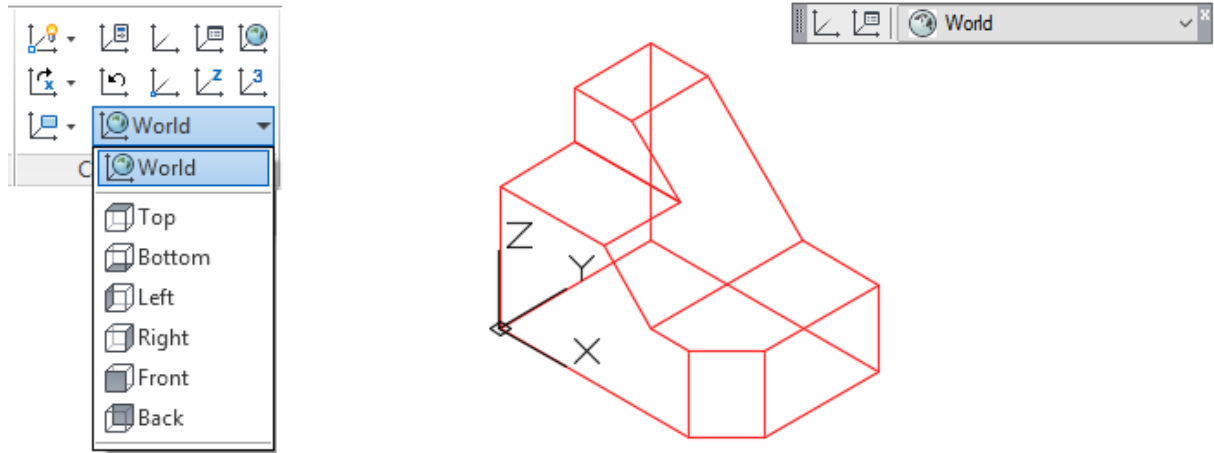

Figure Step 13
Step 13 Click World from the pull-down list. The UCS icon will move onto the WCS. (Figure Step 13)